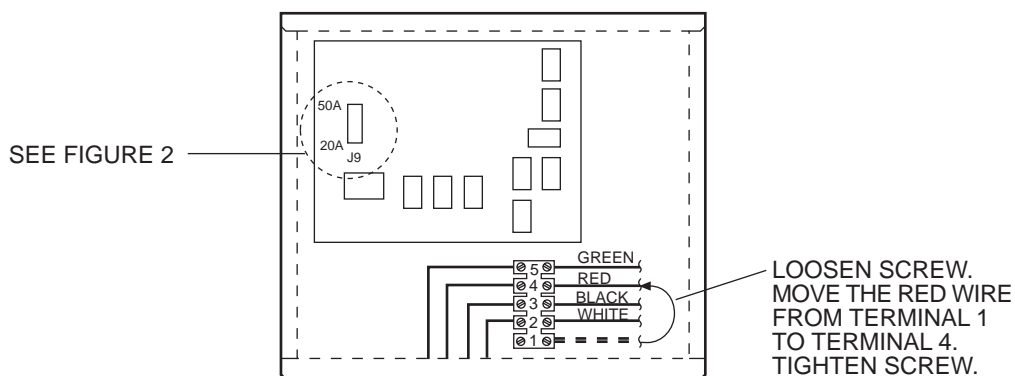

FIGURE 1
4. Loosen screws at bottom side of terminal block and remove power cord cable clamp. Remove and discard GFCI power cord. Refer to Figure 1.
5. Install 230 VAC 4-wire power cord in accordance with local code requirements. Insert the wires into the left hand side of the terminal block and tighten the screws. Refer to Figure 1.
6. Loosen the screw on the right hand side of the terminal block. Move the red wire from position 1 to position 4. Tighten the screw. Refer to Figure 1.
7. Move the jumper at circuit board location J9 from top 20A position to bottom 50A position. Refer to Figures 1 and 2.